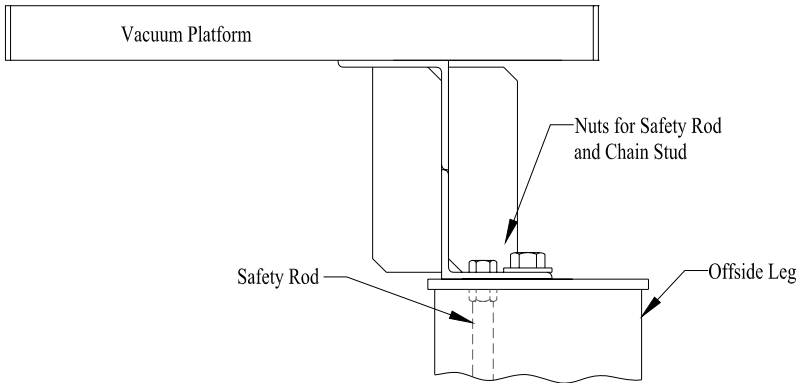

Figure 14
21. Refer to Figure 14, Vacuum Platform Installation. It is advisable to install the offside vacuum platform while finishing the installation of the rear offside leg. The vacuum platform is mounted using the hardware for the safety rod installation and the cross-rail chain installation.